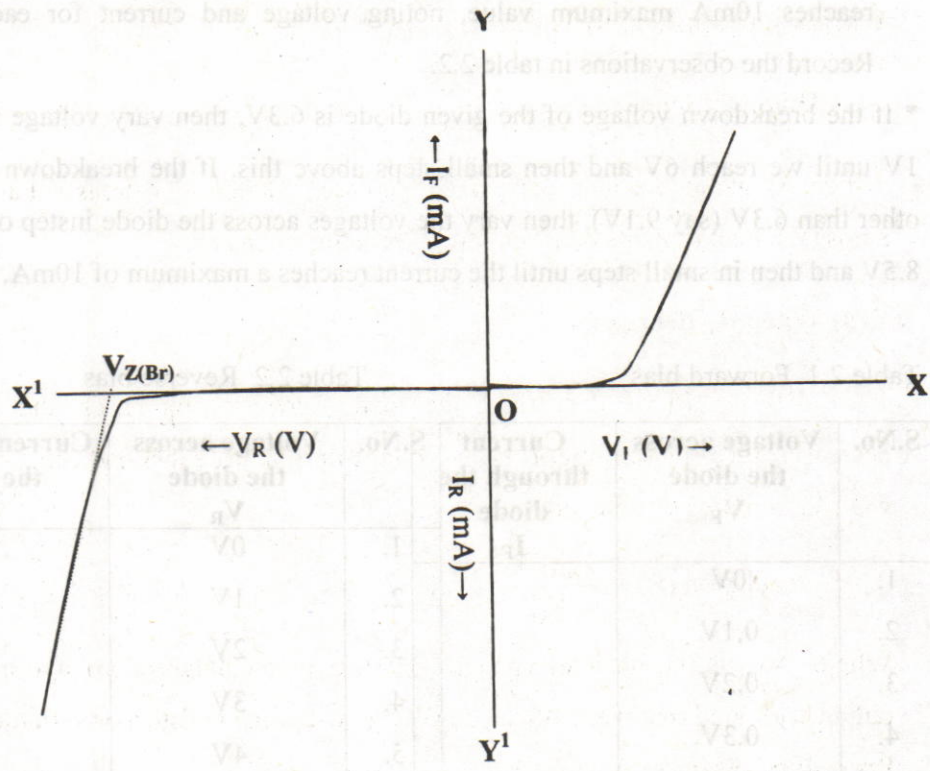

Fig.2.3
4. Draw a tangent at this point and extend it to intercept the -ve X-axis as shown in Fig.2.3. The voltage at this point of intersection will give us the *Zener breakdown voltage* ($V_{Z(Br)}$).